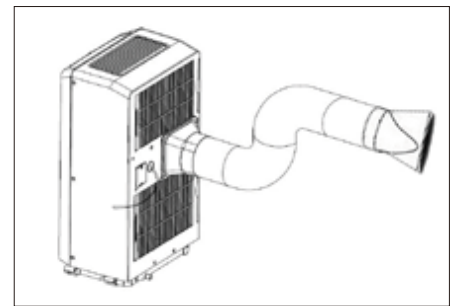

Fig 2.
**B. Attaching the Exhaust Hose : Fig 2.**